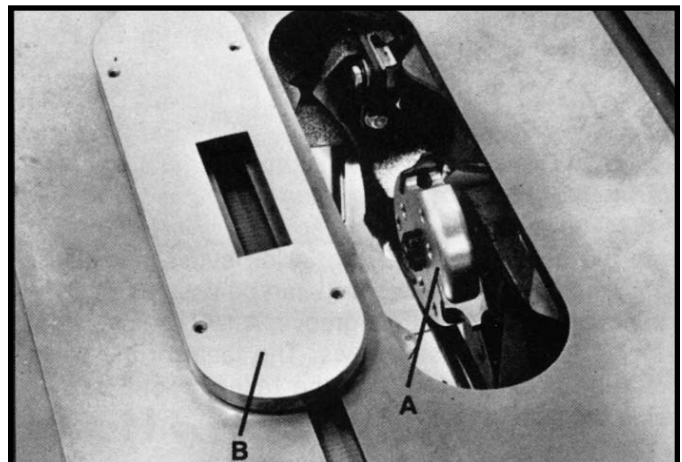

Fig. 134
A moulding cutterhead (A) Fig. 134 is shown assembled to the saw arbor. Also, the accessory moulding cutterhead table insert (B) must be used in place of the standard table insert.